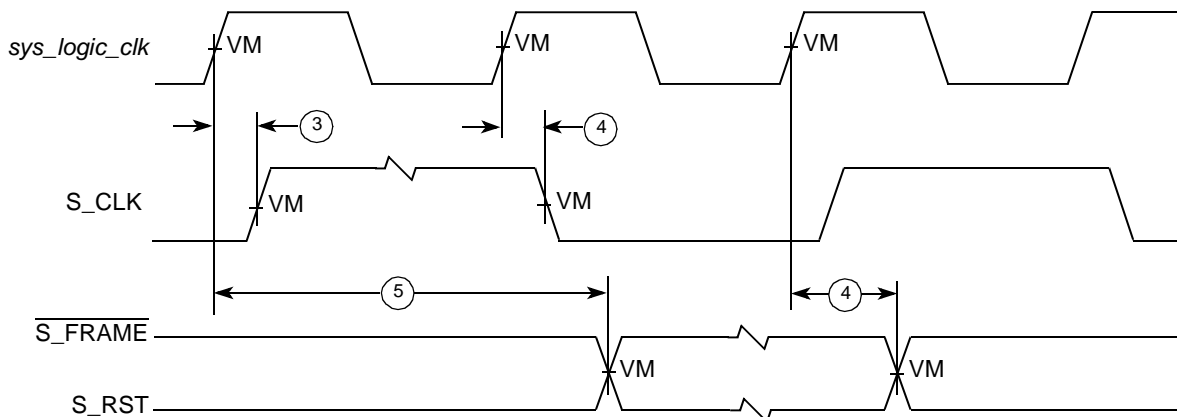
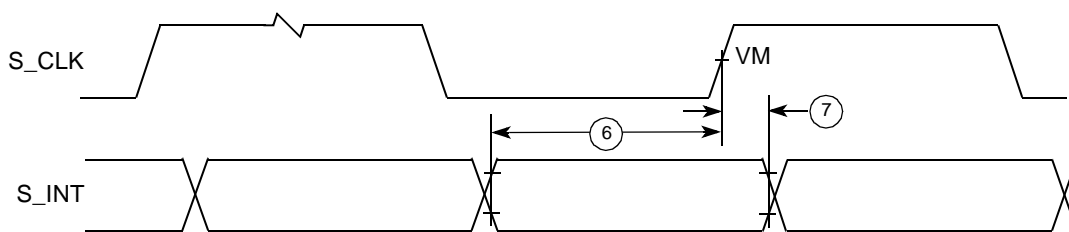

Figure 18. PIC Serial Interrupt Mode Output Timing Diagram
Figure 19. PIC Serial Interrupt Mode Input Timing Diagram
2. S_RST, $\overline{\text{S_FRAME}}$, and S_INT shown in Figure 18 and Figure 19, depict timing relationships to *sys_logic_clk* and S_CLK and do not describe functional relationships between S_RST, $\overline{\text{S_FRAME}}$, and S_INT. The *MPC8245 Integrated Processor Reference Manual* describes the functional relationships between these signals.